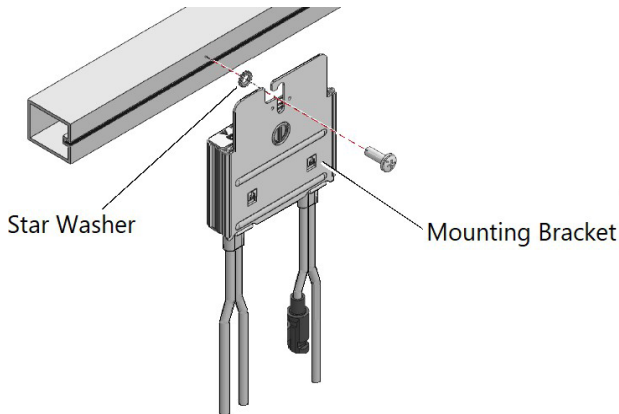

Figure 4: Power Optimizer installation and grounding using a star washer
1. Determine the Power Optimizer mounting location and use the Power Optimizer mounting brackets to attach the Power Optimizer to the support structure (See *Figure 4*). It is recommended to mount the Power Optimizer in a location protected from direct sunlight.